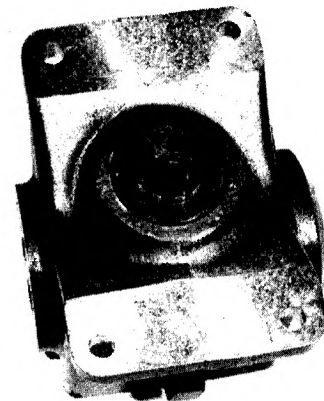

FIG. 10.11--OUTPUT SHAFT AND BEARING INSTALLED IN GEARBOX
16. Install one bearing on output shaft and install into gearbox against retaining ring, Fig. 10.11.